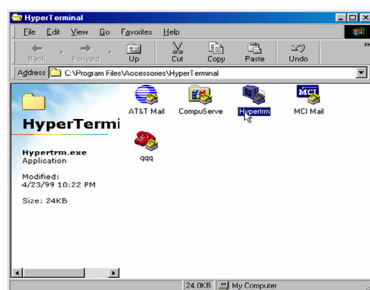

Figure 3.2-2
Step 2. Open "HYPERTRM.EXE". (Figure 3.2-2)